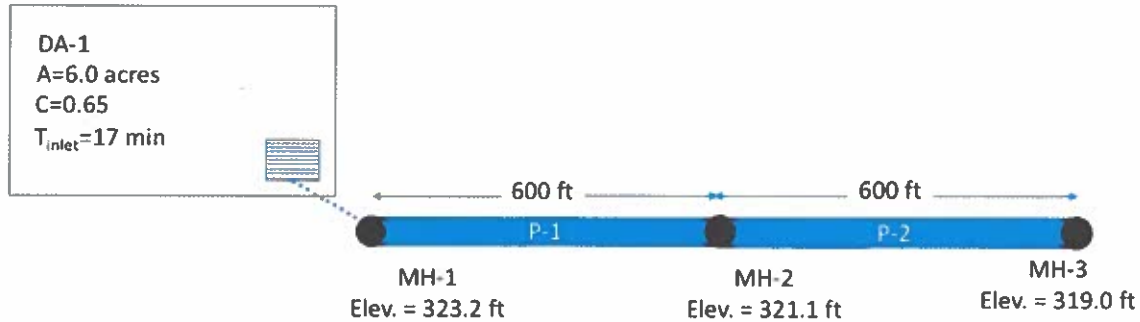

Figure 5. Drainage System Layout.
10. (15 points) Consider the drainage area depicted in Figure 5. The 6.0 acre drainage area has a runoff coefficient of 0.65, and an inlet time (time of concentration to the inlet depicted in the figure) of 17 minutes. The pipes are concrete (Manning's  $n = 0.013$ ). The initial invert elevations for the junction boxes (MH-1, MH-2, MH-3) are 323.2, 321.1, and 319.0 feet, respectively.